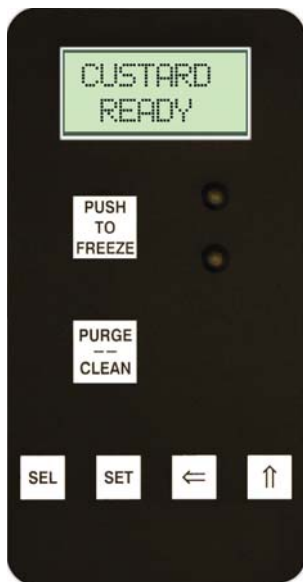

Figure 3-6 Custard Mode
- J. When the display reads CUSTARD READY, the freezing cylinder is at the correct temperature (Fig. 3-6).